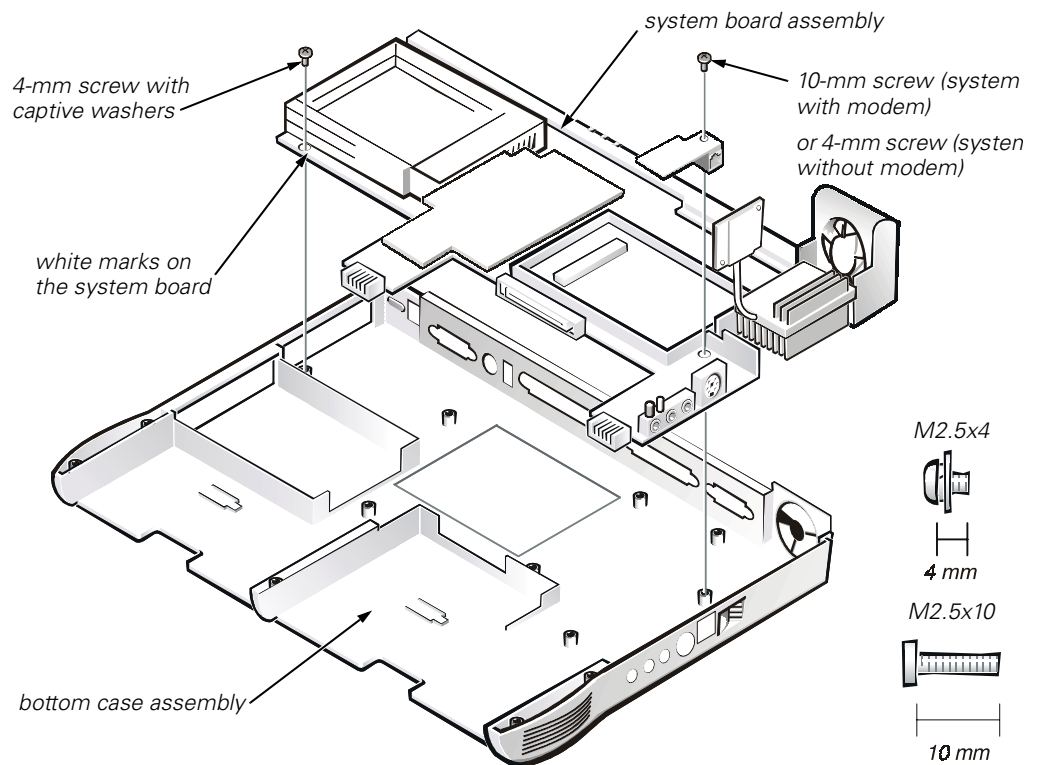

Figure 22. System Board Assembly
9. Remove the two screws securing the system board assembly (see Figure 22).
You can easily locate these screws by looking for the white marks on the system board (or modem) that outline the captive washers (see Figure 22).